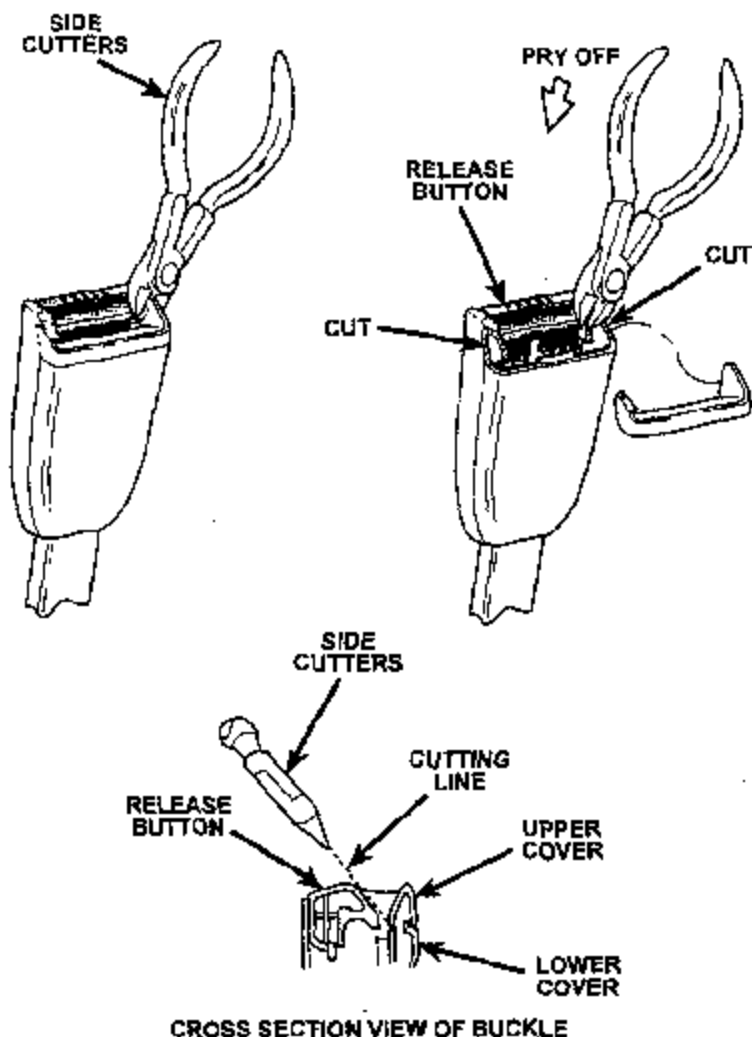

Figure 3
4. Cut both sides of the upper buckle cover along the angled surface using side cutters as shown in Figure 3.